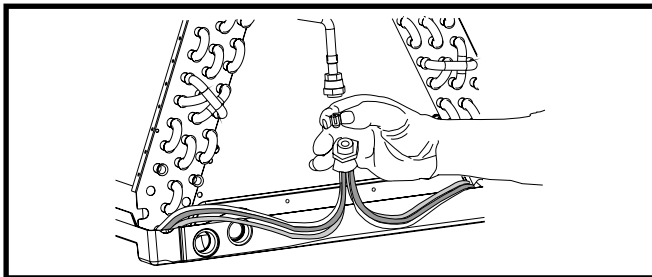

Figure 4. Restrictor Insertion into Distributor Body
4. Insert the new orifice into the distributor body, rounded end down. See Figure 4 (page 4).